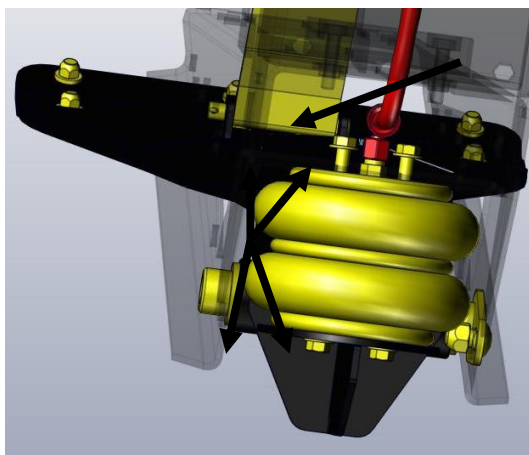

Figure 292
3. Each strut has a supply line and air bag that is retained by 4 bolts. Figure 292